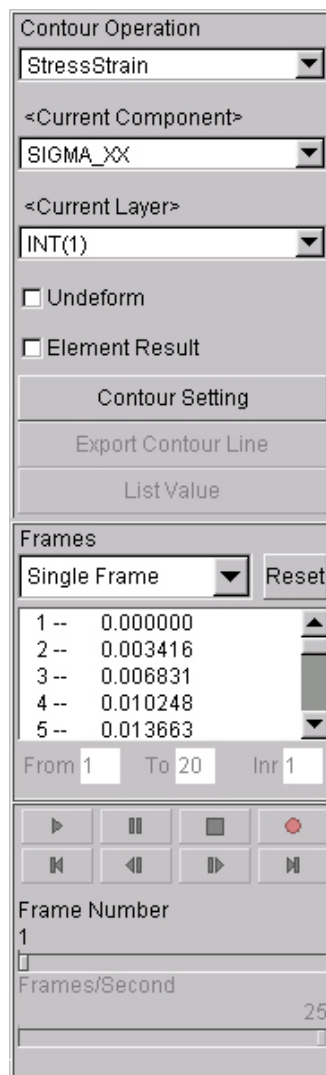

Figure 7.2.1 Animate Contour control window
The functions in this menu enable the user to animate the element stress/strain and related results in real time. The color bar, located on right hand side of graphic window, displays the corresponding contour values. The location of the highest contour value in the model is labeled with an asterisk (*) and the lowest is labeled with a zero (0). The functions in this menu are shown in Figure 7.2.1